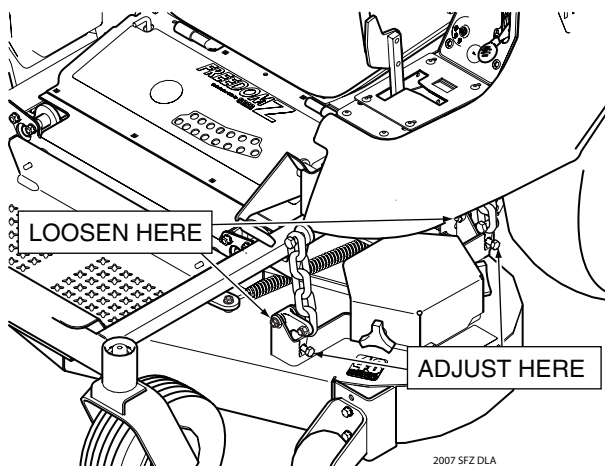

Figure 6-4. Cutter Deck Level Adjustment
1. If the cutter deck is lower on one side, loosen the elastic stop nuts securing the deck level links on the front and rear of the lower side. See Figure 6-4.
2. Turn the adjustment bolts on the front and rear deck level links clockwise until the cutter deck is level between both sides. See Figure 6-4
3. Tighten the two (2) elastic stop nuts to secure the cutter deck in the proper position.